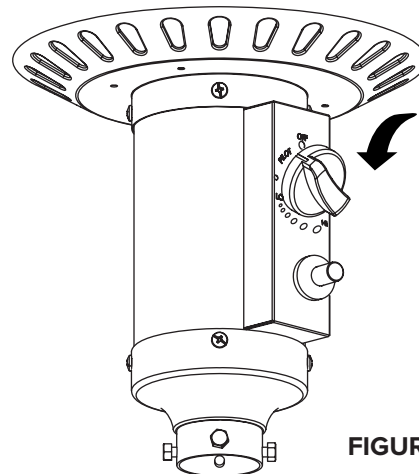

FIGURE 2
4. Push control knob in and rotate to pilot position (Figure 2).